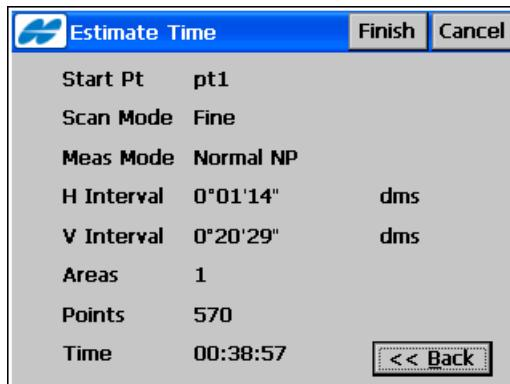

Figure 9-40. Estimate Time
- **Next** – saves the settings and opens the **Estimate Time** screen (Figure 9-40).
Before scanning begins, the **Estimate Time** screen (Figure 9-40) displays the scanning information, including the total number of points to be scanned and an estimate of the time it takes to complete the scan. If the estimated time is too long, click **Cancel** and enter larger intervals.